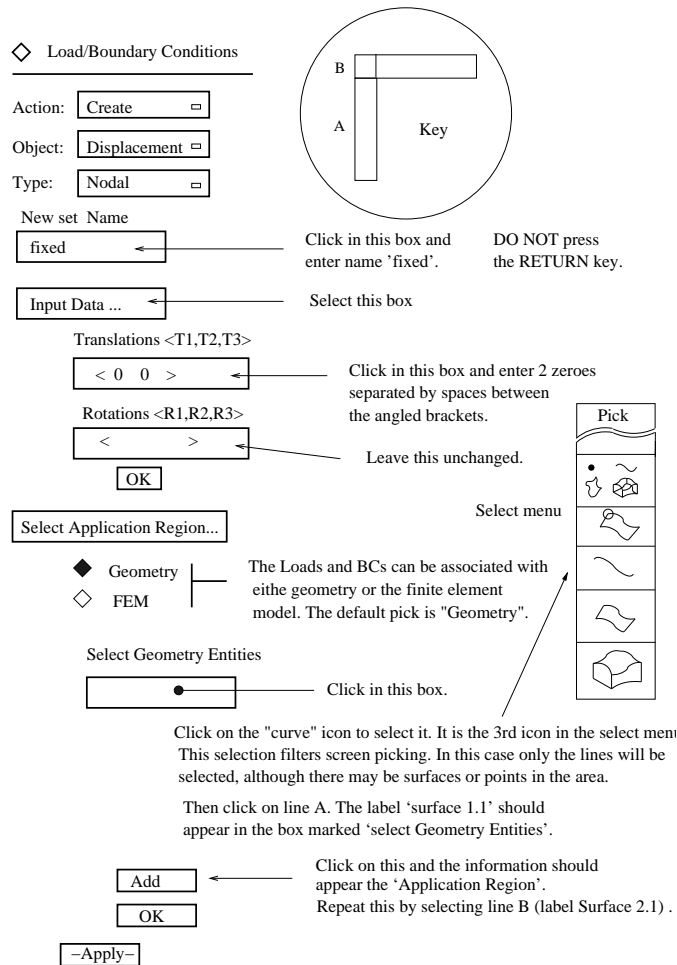

Figure 19: Load/BC Form
- Click on the ◇ **Loads/BCs** button which will close the **Fields** form and open the **Loads/BCs** form (see **Figure 19**).